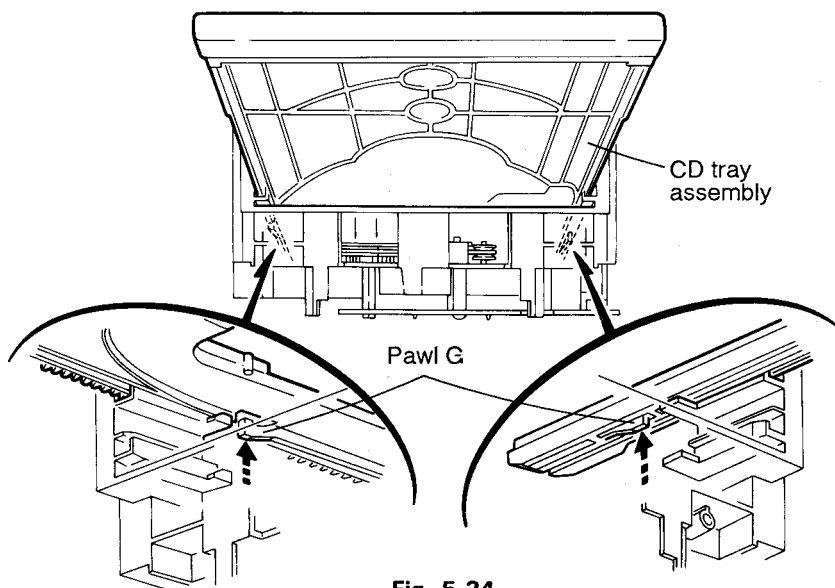

Fig. 5-24
15. At the position where the CD tray assembly has stopped, pull out the CD tray assembly while pressing the two pawls (G and G') on the back side of CD tray assembly (See Fig. 5-24). In this case, it is easy to pull out the assembly when it is pulled out first from the stage CD tray assembly.